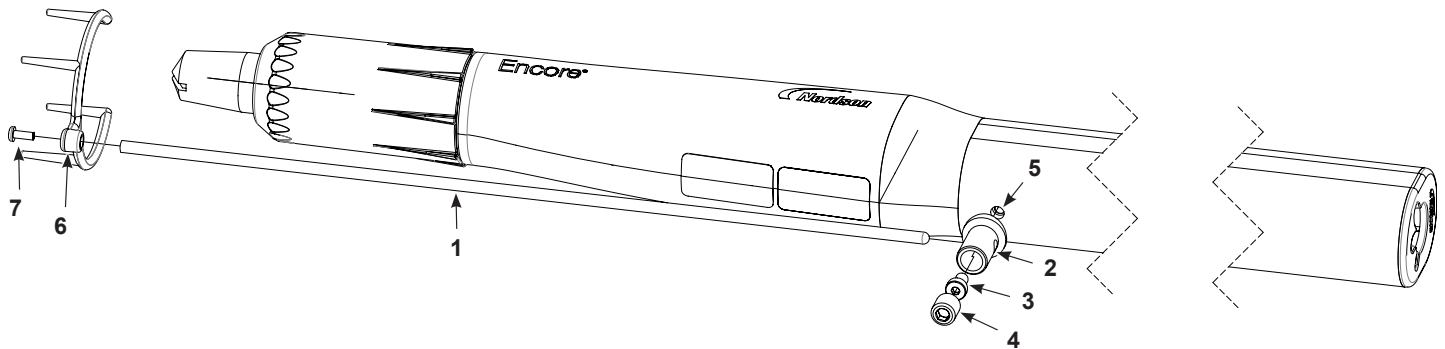

Figure 3-6 Ion Collector Installation - Tube-Mount Spray Gun (for clarity, some parts are not shown)
1. See Figure 3-6. Secure the post (2) to the grounding plate with the M5 X 10 screw (3).
2. Insert the collector rod (1) into the post and secure it with the M10 x 10 nylon-tipped set screw (4).
3. Attach the multi-point tip (6) to the collector rod with the M3 x 8 screw (7). Torque the M3 screw to 6 in-lb (0.6 N•m).